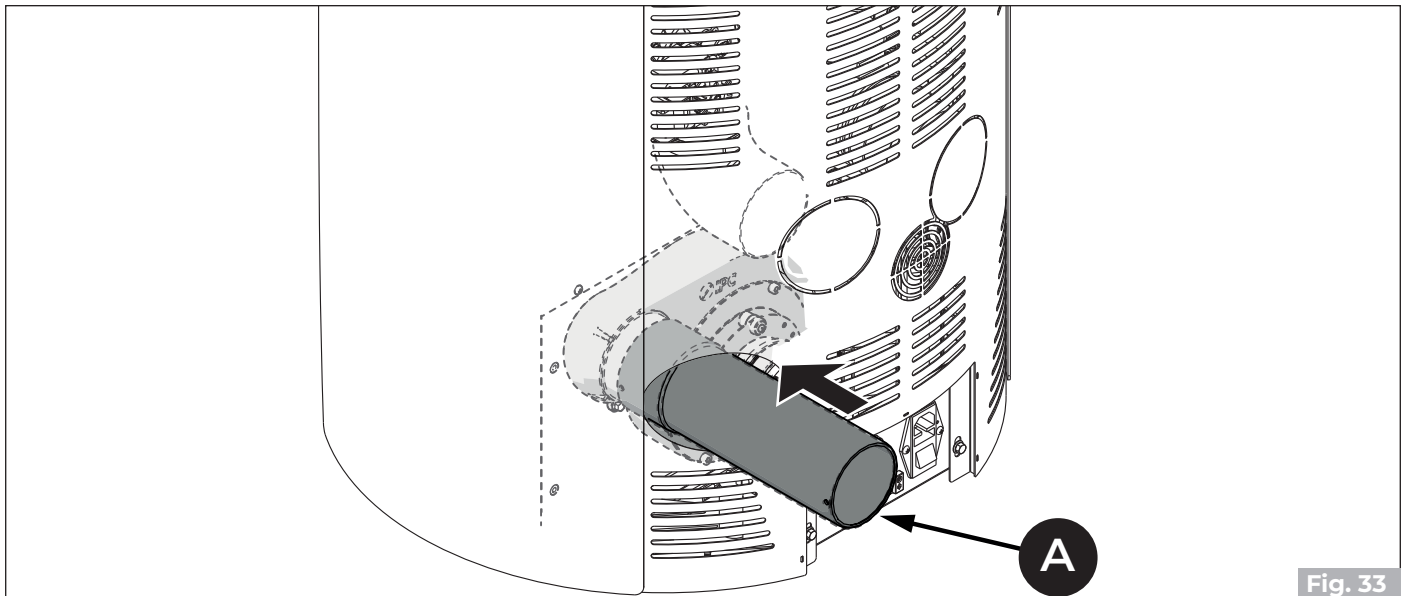

Fig. 33
- Connect the flue gas outlet pipe **(A)** ("Fig. 33").